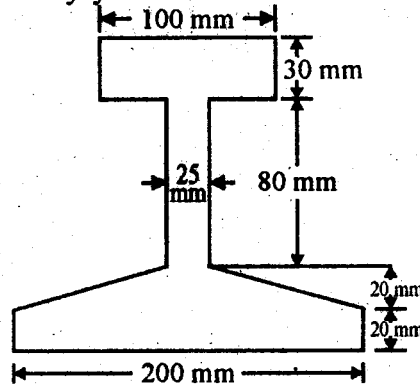

Fig. 3
- (c) Determine the moment of Inertia of the built-up section shown in Fig. 3 about its centroidal axis x-x and y-y.